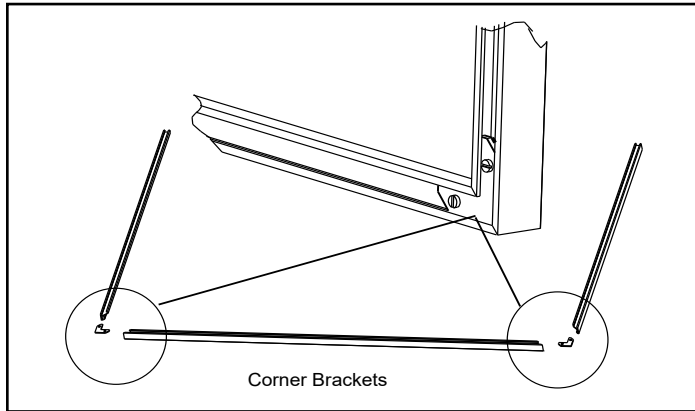

Figure 5.12
3. Assemble trim as shown in **Figure 5.12**.